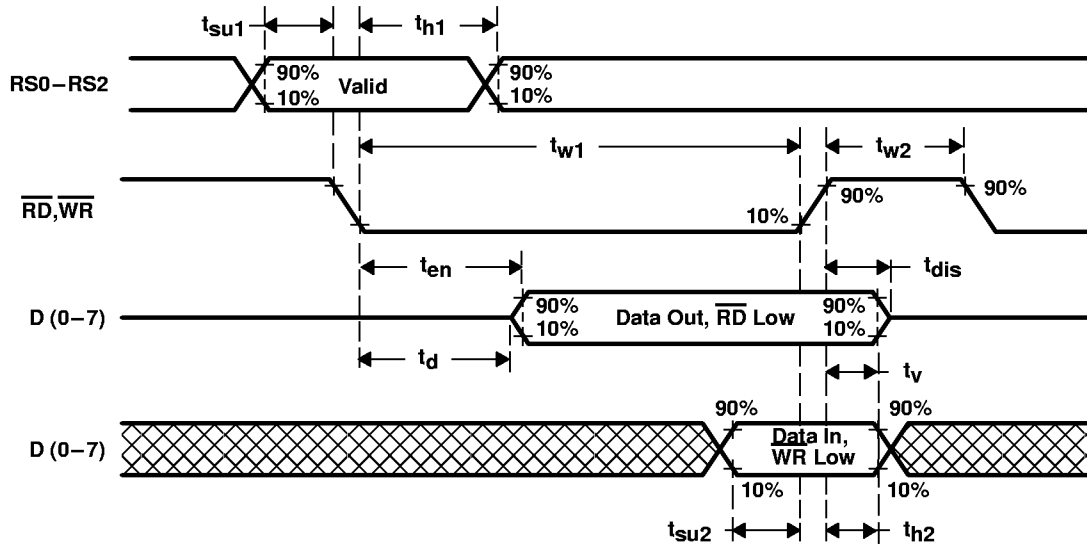

Figure 3-1. MPU Interface Timing
3.9 Switching Characteristics for TVP3010C Over Recommended Ranges of Supply Voltage and Operating Free-Air Temperature (see Figures 3-1 to 3-3)
3.9 Switching Characteristics for TVP3010C Over Recommended Ranges of Supply Voltage and Operating Free-Air Temperature (see Figures 3-1 to 3-3) (Continued)
3.10 Switching Characteristics for TVP3010M, Over Recommended Ranges of Supply Voltage and Operating Free-Air Temperature (see Figures 3-1 to 3-3)